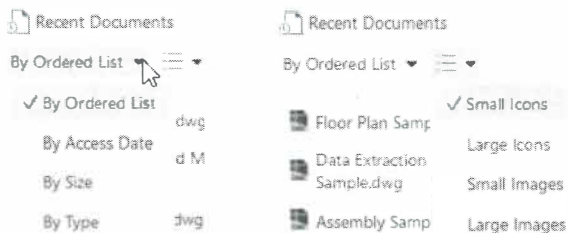

Figure 1–42
- Expand  (Close) in the Application Menu to close either the current drawing or all open drawings, as shown in Figure 1–43.